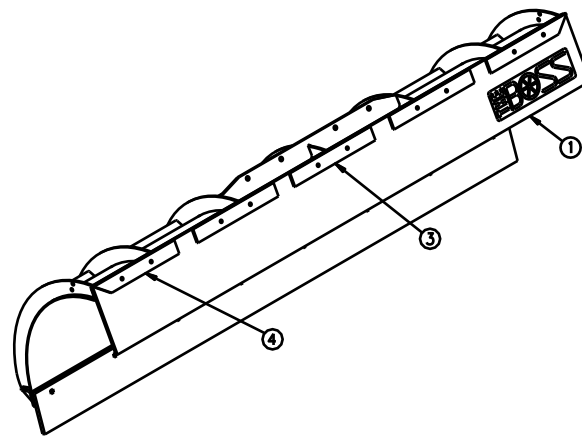

Figure 9. Strap Orientation
3. Place Straps (3) and Straps w/45° Angle (4) on top of Belting (1). The Straps w/45° Angle (4) must be placed on the outer edges of the Plow Blade. See Figure 9.